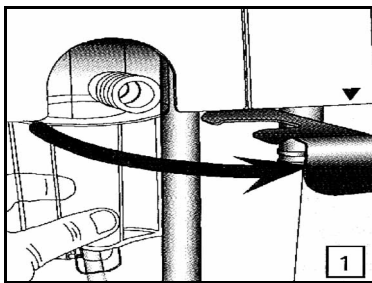

Figure 2-10: Inserting the Filter / Water Trap combination
2. Insert the AVEA Disposable Expiratory Filter into the filter cavity with the orientation as shown in Figure 2-10. Make sure the filter is fully inserted into the filter cavity before closing the lever.